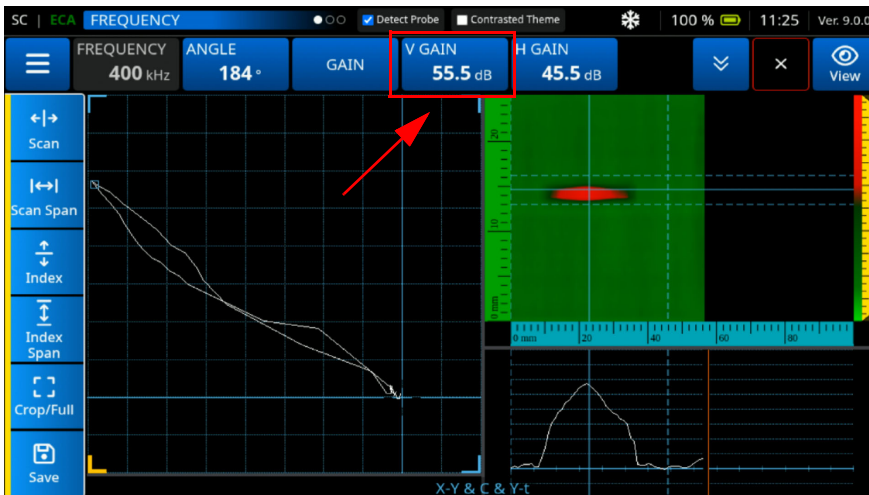

Figure 4-32 Adding +10 dB
- Using the live impedance and **V Gain**, add +10 dB (See Figure 4-32 on page 144).